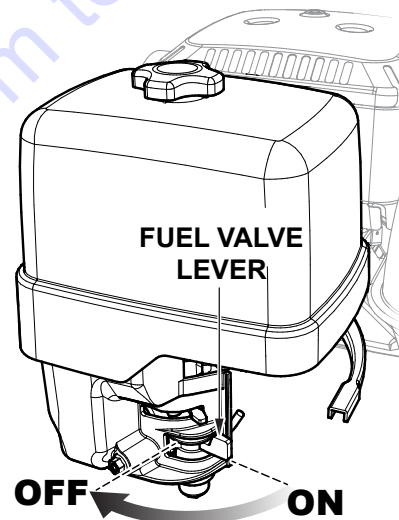

Figure 43. Fuel Valve Lever (OFF)
- Place the fuel valve lever in the **OFF** position (Figure 43).